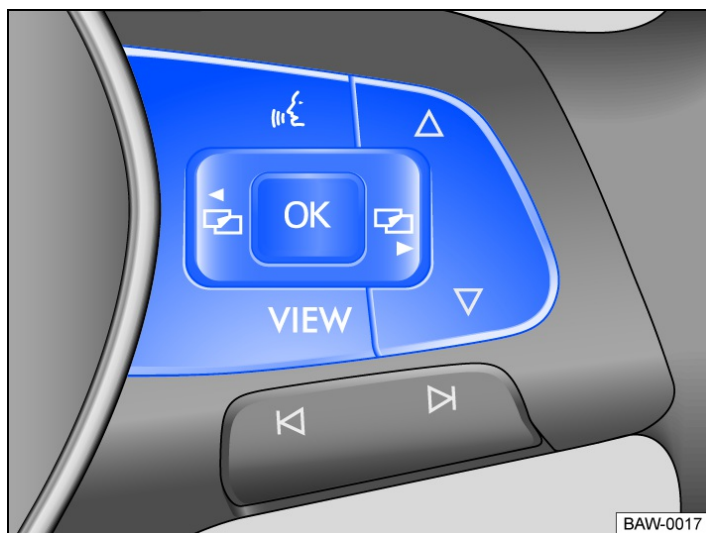

Fig. 1 Right-hand side of the multifunction steering wheel: controls for using the menus and information displays in the instrument cluster.
If any priority 1 warnings are displayed, you will be unable to open any menus (→ Warning and information messages). Some warnings can be confirmed and hidden using the **OK** button on the multifunction steering wheel → Fig. 1.
- If a message or the vehicle pictogram is displayed, press the button **OK** → Fig. 1, several times if required.
- Press the  or  button to display a menu or browse through a menu → Fig. 1.
- To open the menu or information display shown, press the **OK** button → Fig. 1 or wait until the menu or information display opens automatically after a few seconds.